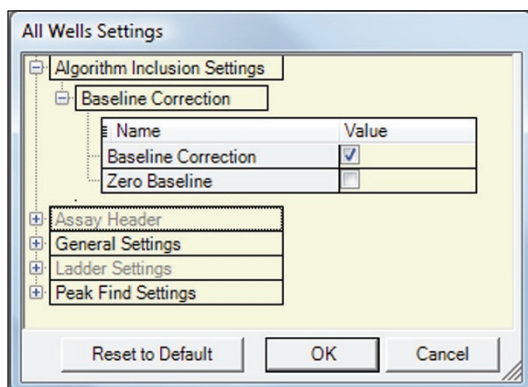

Fig. 6.2. Algorithm Inclusion Settings options.
- Under the **Settings** tab, select one of the following two options under **Algorithm Inclusion Settings** (Figure 6.2):
- In the **All Well Settings** dialog, expand **Algorithm Inclusion Settings** and select the type of modification you would like to apply (see above for descriptions or Figure 6.2). Click **OK**.